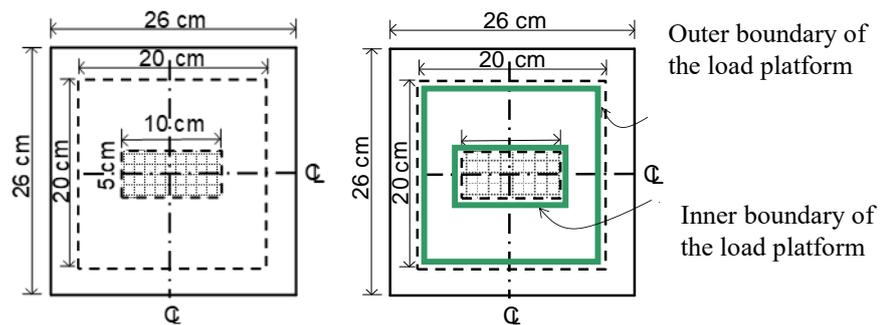

Figure1 The allowable site area of the model.
shown in Figure 1). Also, the vertical projection of material (hot-melt glue included) and mass block must not project within the center range (10 cm x 5 cm) of base board.
4.1.7 The load platform of the model should be made of wooden sticks. The border also should be marked by wooden sticks that include inner and outer boundary (shown in Figure 1). The range of inner and outer boundary should follow the rule 4.1.5.